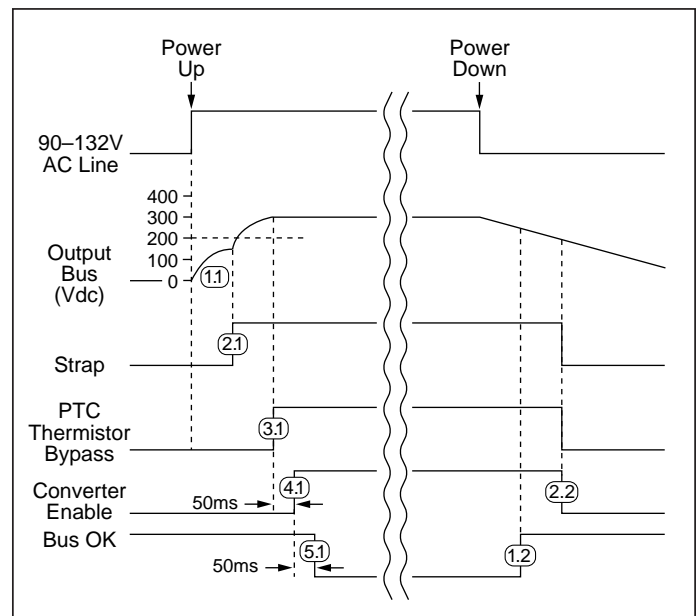

Figure 7—Timing diagram: power up/down sequence
**Power-Up Sequence.** (See Fig. 7):
**Power-Down Sequence.** (See Fig. 7). When input power is turned off or fails, the following sequence occurs as the bus voltage decays: